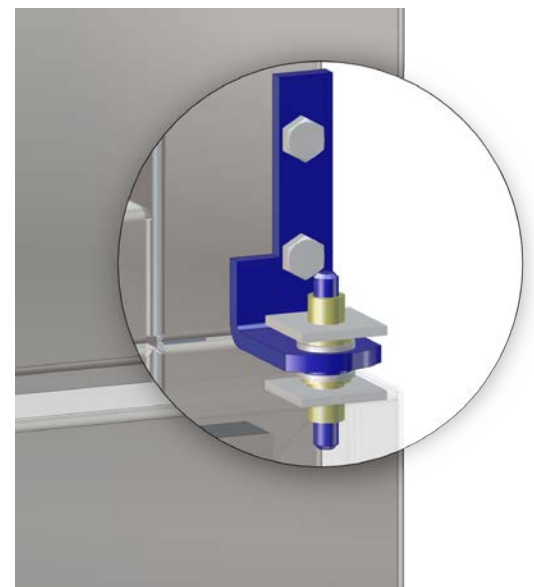

Fig. 62: Intermediate Door Hinge in Place
**Note:** For warming cabinets with more than one door, an intermediate hinge (Fig. 61) fits between the bottom of the top door and the top of the bottom door of the dual chambered warming cabinet (shown in blue in Fig. 62). (Middle doors on Triple chamber warming cabinets use only intermediate hinges for both top and bottom.)